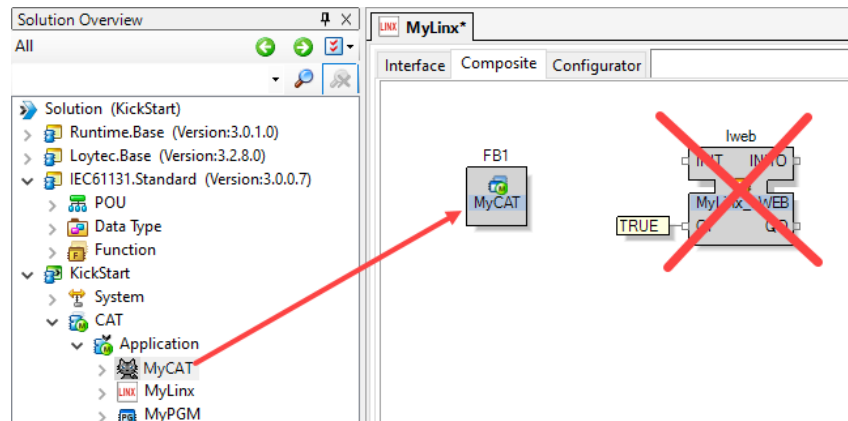

Figure 51: Create a CAT instance within the device CAT.
18. Open the device 'MyLinx' and go to the **Composite** tab. Drag the 'MyCAT' from the solution tree onto the composite tab to create a CAT instance (see Figure 51). You may also delete the 'lweb' block as it is not needed.